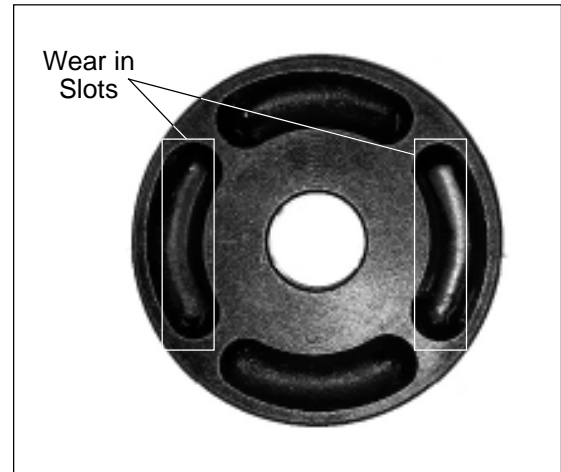

Figure 4 — Cam Plate Position
28. Rotate the cam plate 90 degrees from its original position and reinstall it. If unable to determine which way the cam plate was installed originally, look at the amount of wear in the four slots (refer to Figure 4). The cam plate should be positioned so that the two slots without wear line up with the balls and slots in the hub.